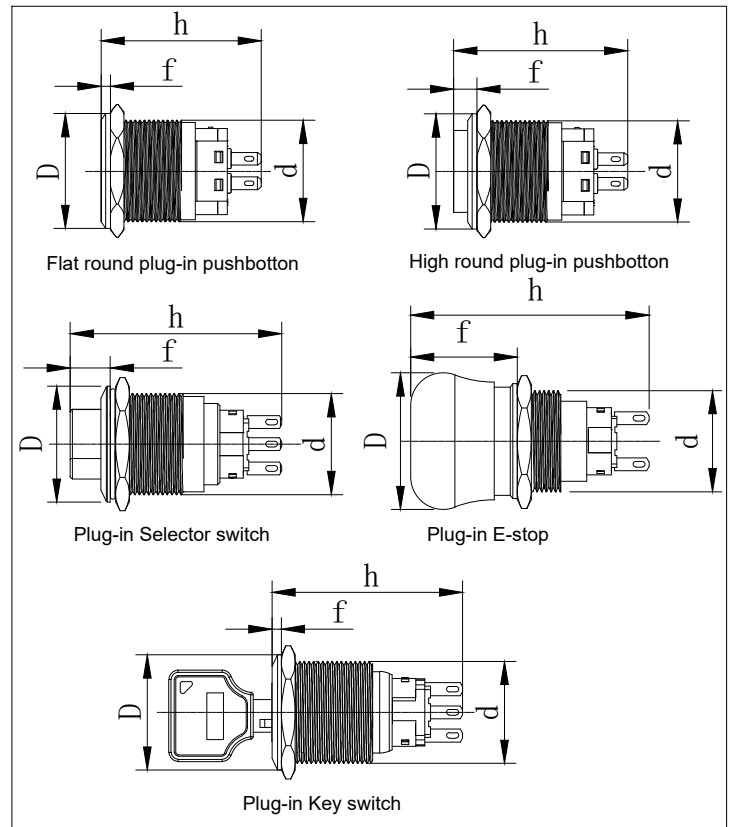

Figure 2: Outline dimension
4.4 Outline dimension as shown in Figure 2 (Unit :mm)